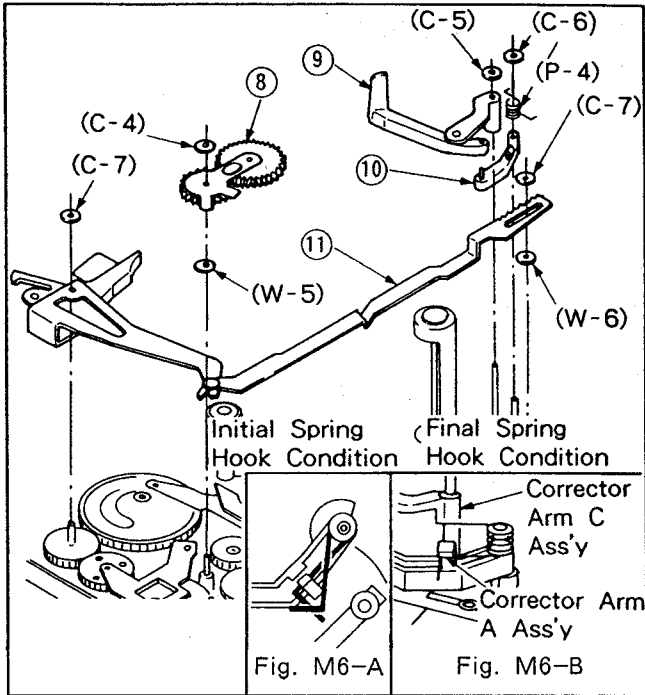

Fig. M6
- 7) Place corrector arm spring in initial hook position. See Fig. M6-A. Remove corrector arm C and B. See Fig. M6